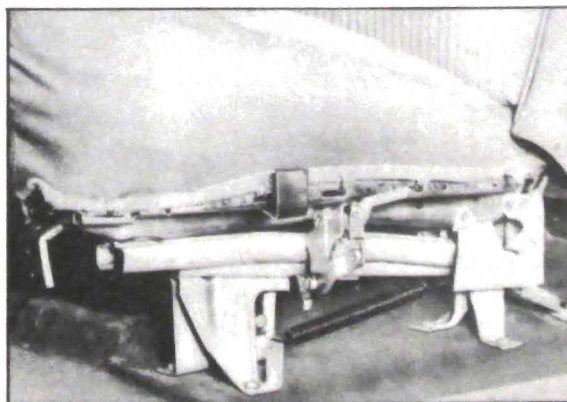

Figure 13-42—Front Seat Adjuster
2. Remove bolts attaching the four seat adjuster supports to body floor pan. See figure 13-42.